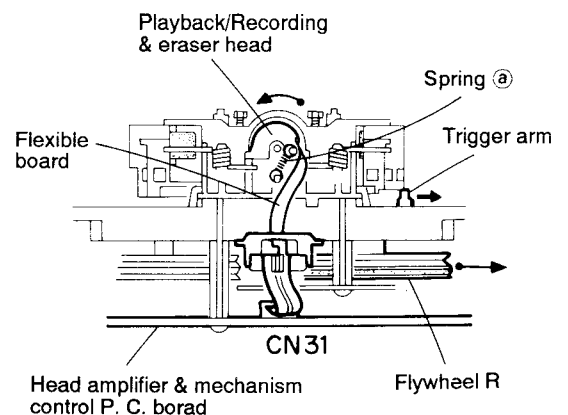
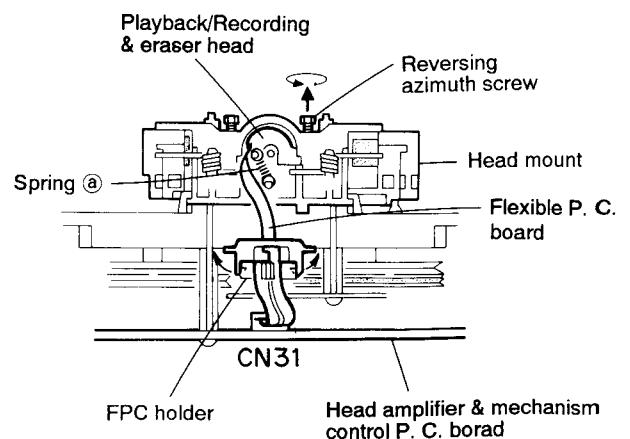

Fig. 5-20
Fig. 5-21
2. When the flywheel R is rotated in counterclockwise direction, the playback/Recording & eraser head will be turned in counterclockwise direction from the position in Fig. 5-20 to that in Fig. 5-21.
6. Remove the spring ① from behind the playback/Recording & eraser head.
1. Reassemble the playback head from the front of the head mount to the position as shown in Fig. 5-21.
3. Set the spring ① from behind the playback/Recording & eraser head.
4. Attach the flexible P.C. board to the chassis base, and fix it with the FPC holder as shown in Fig. 5-21.